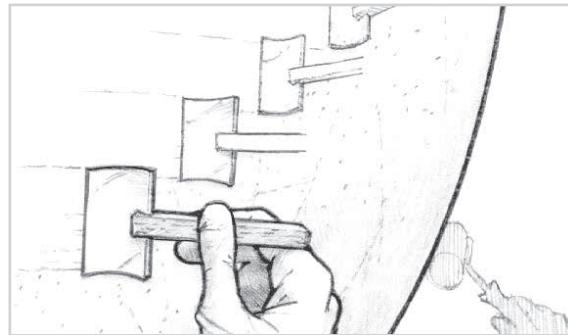

Figure 13-4 Tip off each fresh coat of epoxy with a foam roller brush to reduce bubbles and roller marks.
6. Tip off the freshly applied batch area before you begin applying the next batch. Drag a foam roller brush lightly over the surface in long overlapping strokes, in one direction, to remove roller marks and air bubbles in the coating. You will find that the thinner the coating, the smoother the finish after tipping off. You may chose to have a helper preparing your next batch of epoxy then tipping off behind you while you continue rolling (Figure 13-4).